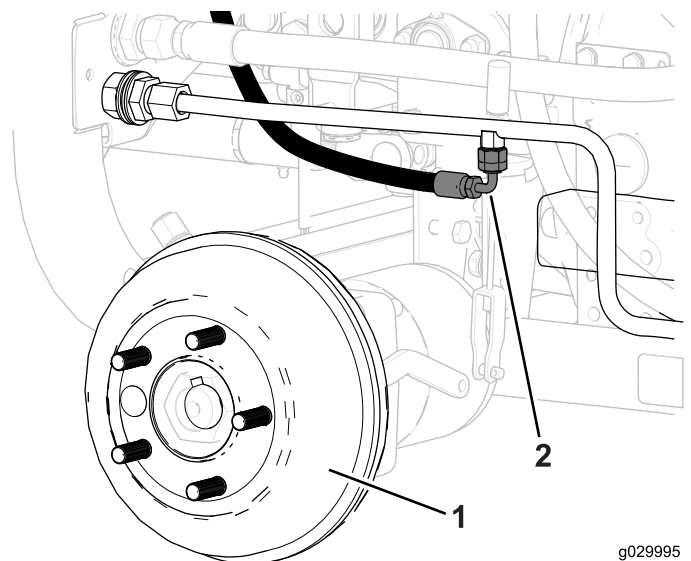

Figure 16
2. Connect the hose fitting (90 degree) on the long hydraulic hose to the hydraulic fitting on the hydraulic line (Figure 16).